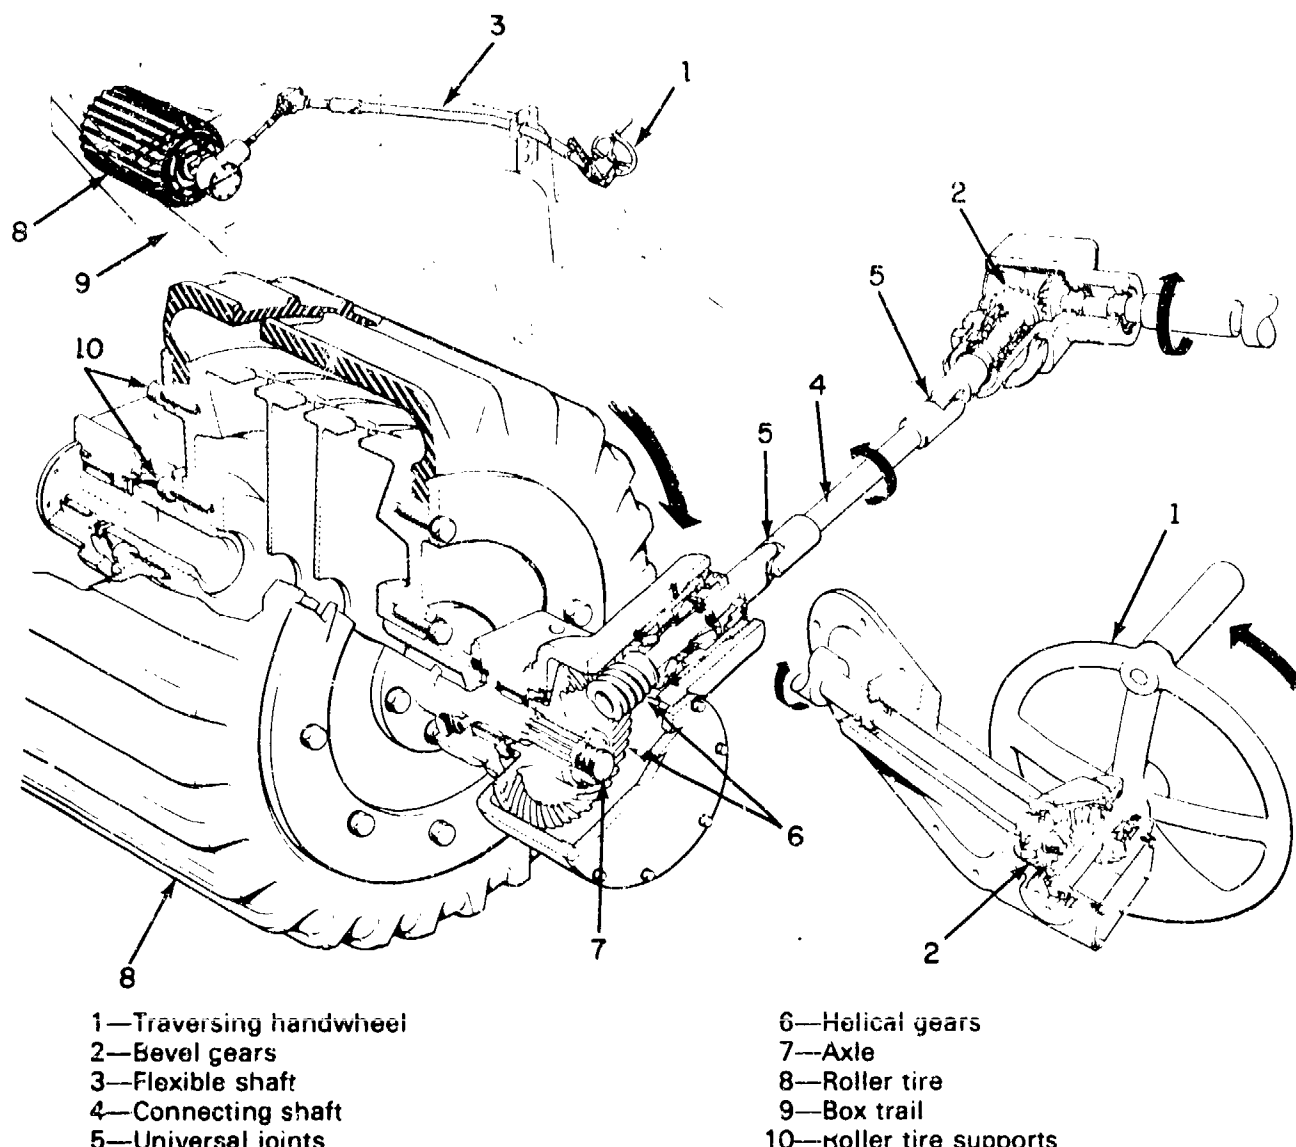

Figure 4-18. Bevel gear roller tire drive train.
c. *Components.* Components of the traversing mechanism (fig 4-18) are a handwheel, bevel gears, a flexible shaft, a connecting shaft with U-joints, helical gears, an axle, and a roller tire filled with solid foam.
lubricated semiannually by DS or GS maintenance personnel (LO 9-1015-234-10). When the weapon is to be shifted over 200 mils the cannoneers will use the trail lifting handles to lift the trail and shift the direction of the tube. This prevents undue wear of the traversing mechanism. The roller tire should never be dragged on the ground. The maximum allowable backlash of the traversing handwheel is 1/12 turn. If this tolerance is exceeded, the deficiency will be reported to DS or GS maintenance personnel. Field units have indicated some problems with the traversing mechanism (fig 4-18); however, all known failure problems have been corrected. Failure of the gearbox, caused by large trail shifts, was corrected by means of a stronger gearset and additional support bearings. The only other reported problem concerned wearing of the locking pin holes in the universal joints. This caused excessive backlash in the mechanism. This problem was corrected by an improvement in the mechanism universal joints.